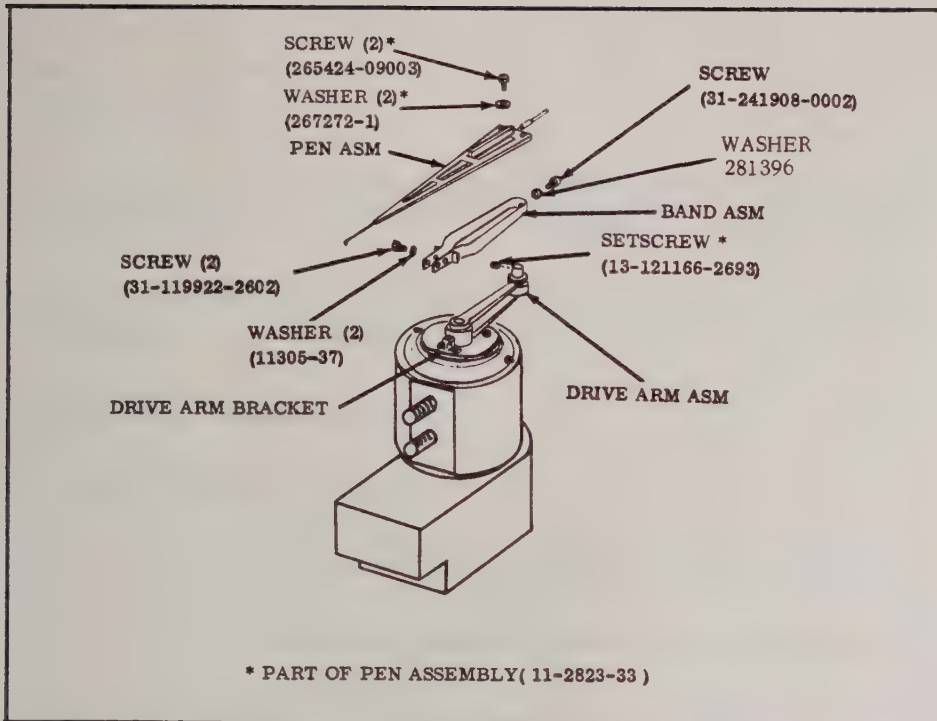

FIGURE 4-3 PENMOTOR ASSEMBLY
2. Remove socket-head screw and band clamping (curved) washer that secures band assembly to drive arm (use wrench 1-120922-3). (see Figure 4-3)